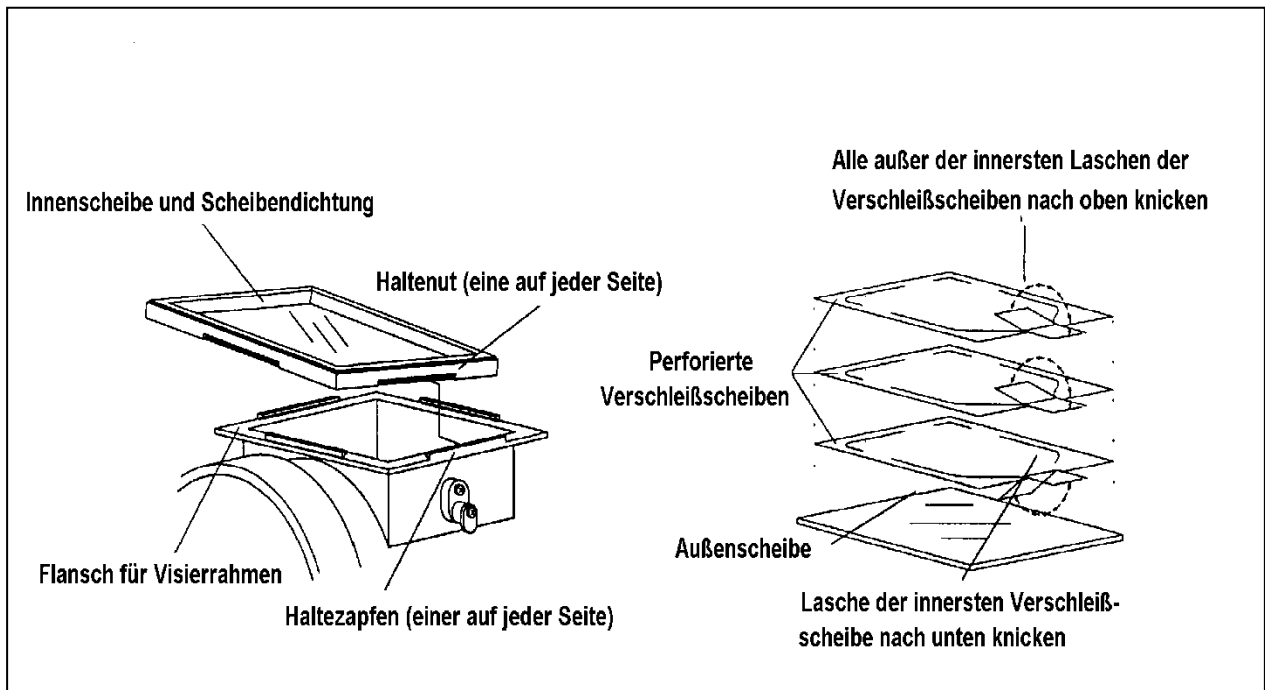

Figure 3: Replacing inner and cover lenses
(3) Fit new inner lens.	<ul style="list-style-type: none"> – Clean the lens gasket and fit a new inner lens. – From the outside place the new lens gasket with inner lens on the opening. – Place the lens gasket with inner lens on the flange and push a retaining slot over the respective holding tab (see figure 3). – Working from both outside and inside, push the other retaining slots over the holding tabs.
- (1) Working on a smooth surface, place up to three cover lenses on the outer lens.
- (2) Fold the tabs on the top two cover lenses upwards and the tab on the bottom lens downwards (see figure 3).
- (3) Open the lens frame and remove the outer lens and/or the remnants of the cover lenses.
- (4) Place the cover lenses with the outer lens on the inner lens so that the cover lens tabs poke through the lens frame.
- (5) Hold the lenses and close the lens frame.